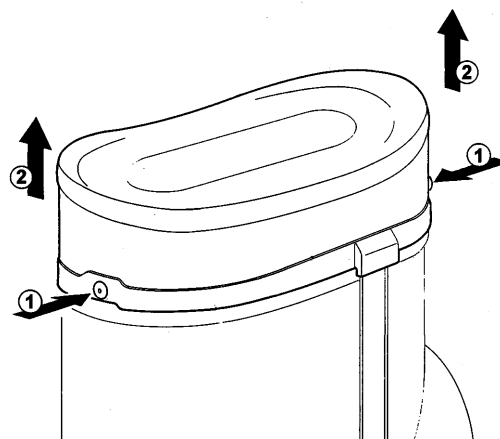

figure 1
- 8 To remove the cover push any of the two fixing buttons and lift it. (see figure 1)